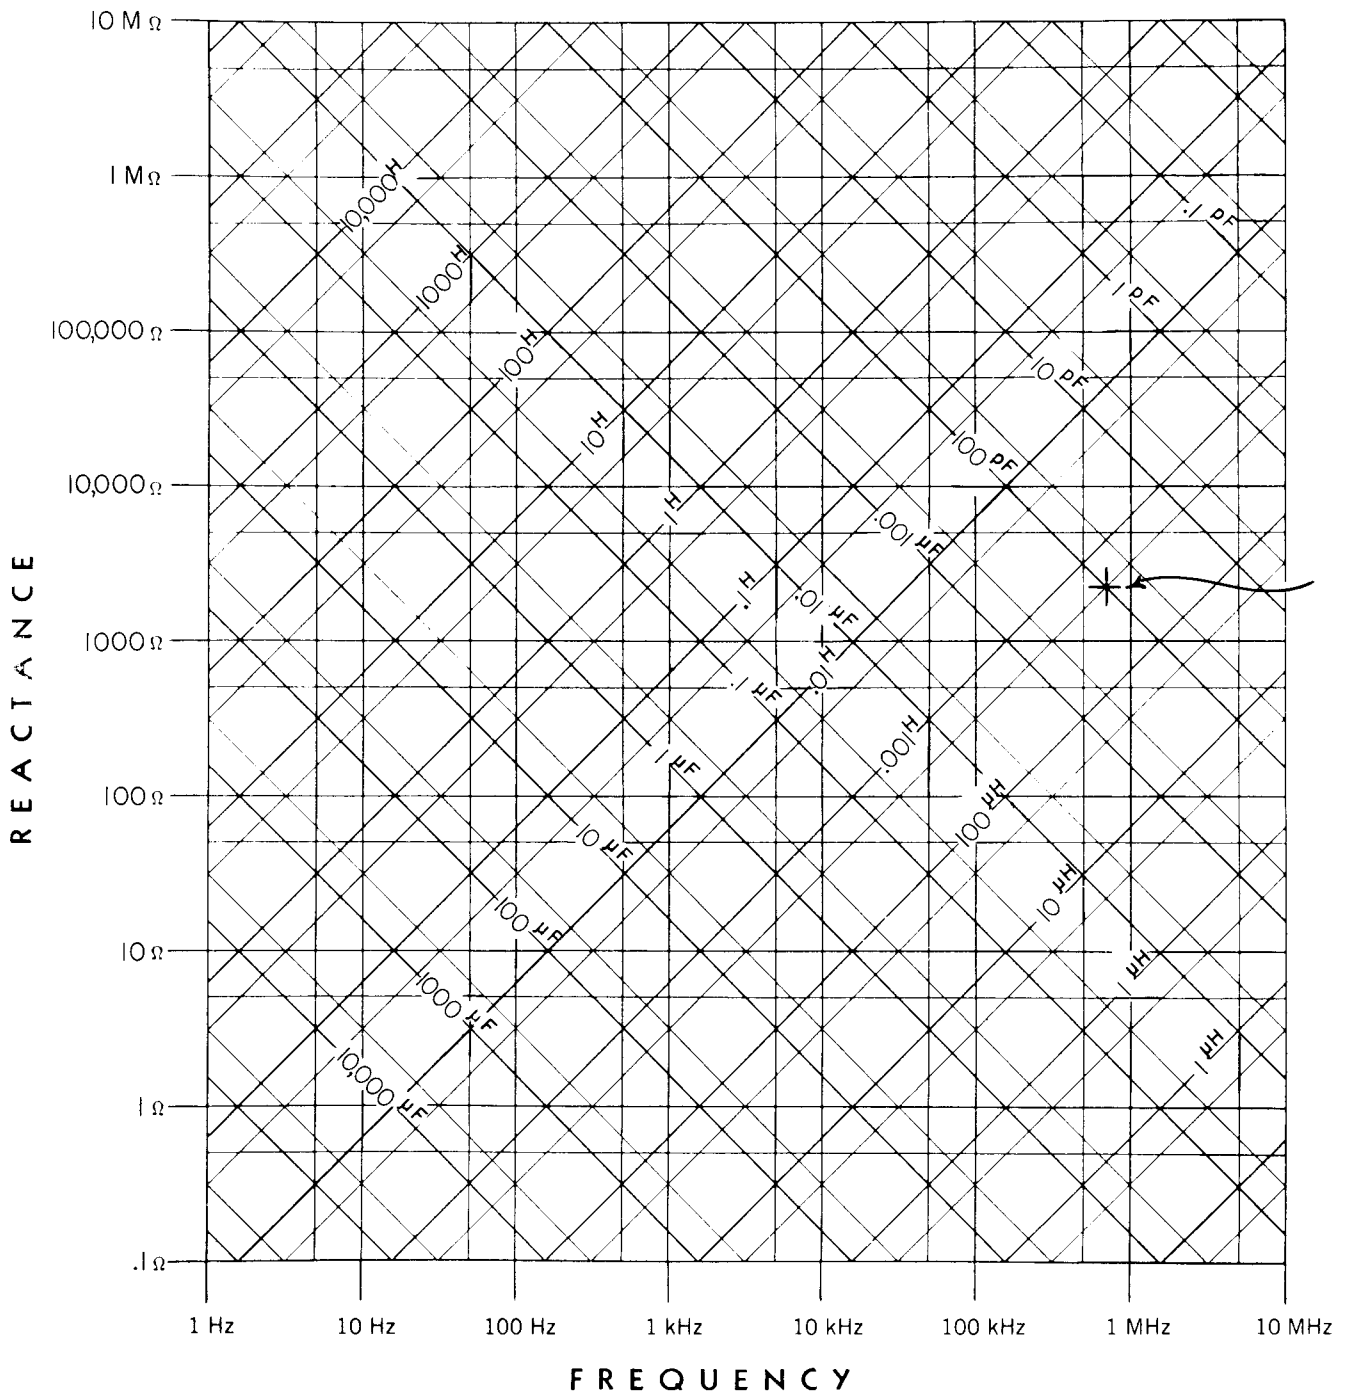
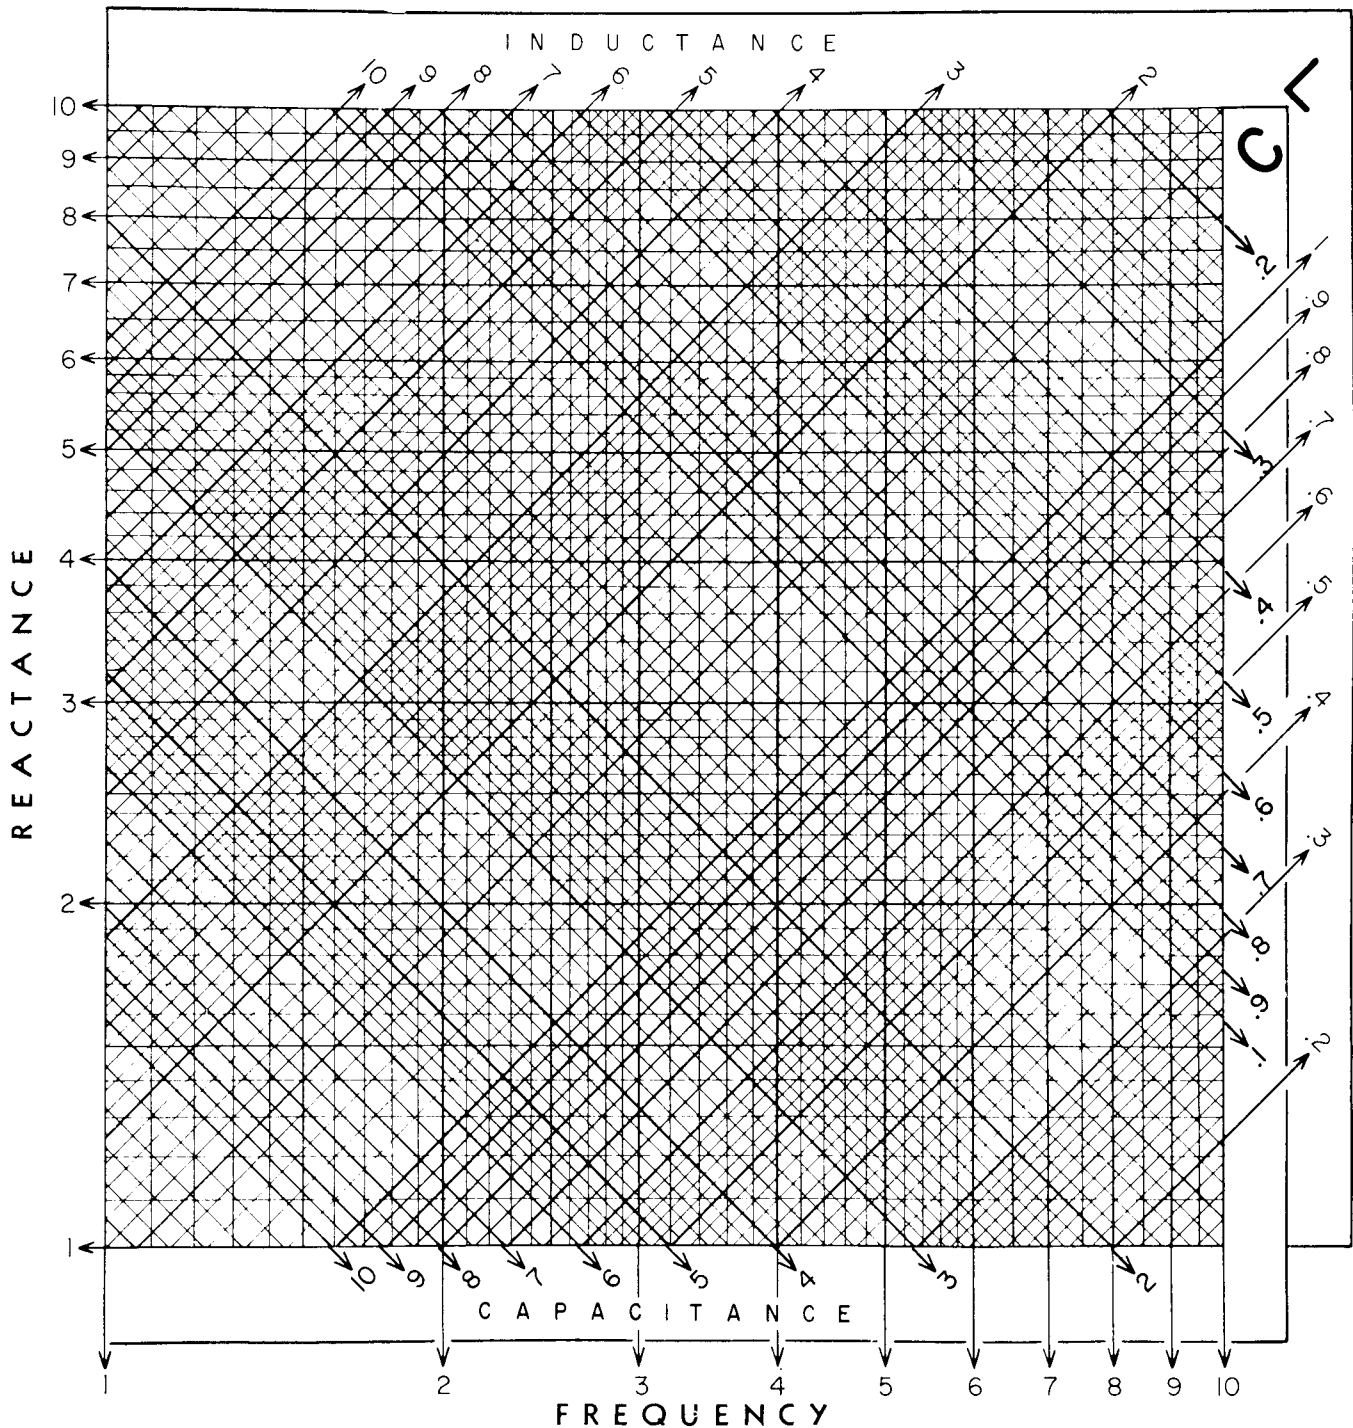

FIGURE 3-8
FIGURE 3-9
Figure 3-8 is the complete chart, used for rough calculations. Figure 3-9, which is a single decade of Figure 3-8 enlarged approximately 7 times, is used where two or three significant figures are to be determined.
Always obtain approximate value from Figure 3-8 before using Figure 3-9
**Example:** The point indicated in Figure 3-8 corresponds to a frequency of about 700 kHz and an inductance of 500  $\mu\text{H}$ , or a capacitance of 100 pF, giving in either case a reactance of about 2000 ohms. The resonant frequency of a circuit containing these values of inductance and capacitance is, of course, 700 kHz, approximately.
**USE OF FIGURE 3-9**
Figure 3-9 gives additional precision but does not place the decimal point, which must be located from a preliminary
entry on Figure 3-8. Since the chart necessarily requires two logarithmic decades for inductance and capacitance for every single decade of frequency and reactance, unless the correct decade for L and C is chosen, the calculated values of reactance and frequency will be in error by a factor of 3.16.